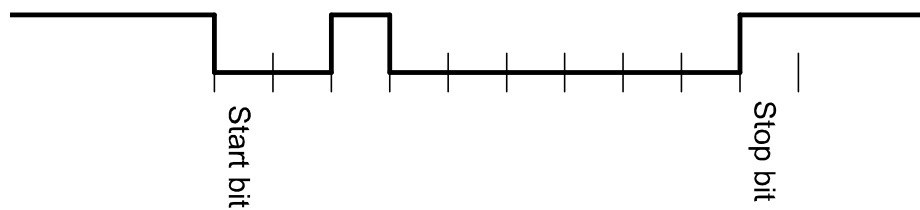

Figure 7. "UART" Code.
- A UART (Figure 7) transmits asynchronously, with a defined format - like 9600bps, one start, eight data, no parity and one stop bit (9600-8-N-1)